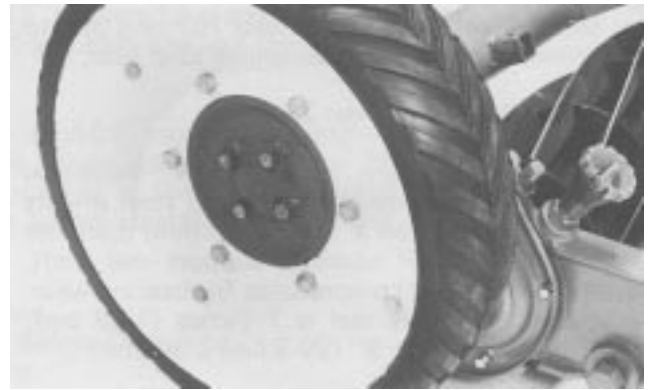

Figure 2
4. Install drive wheels with capscrews and lockwashers (Fig. 2). Do not try to install wheels over the shipping caps.